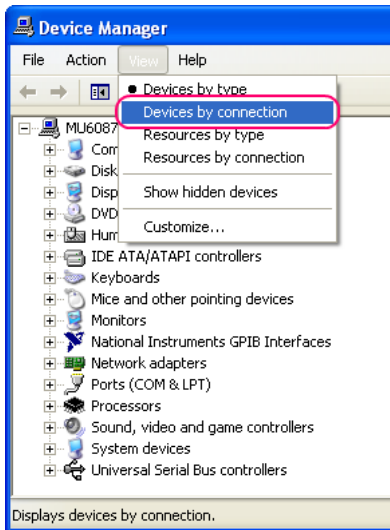

Fig. 1-7 Changing the view in Device Manager
2. Start the Device Manager and change the view by selecting **View - Devices by connection** (Fig. 1-7).